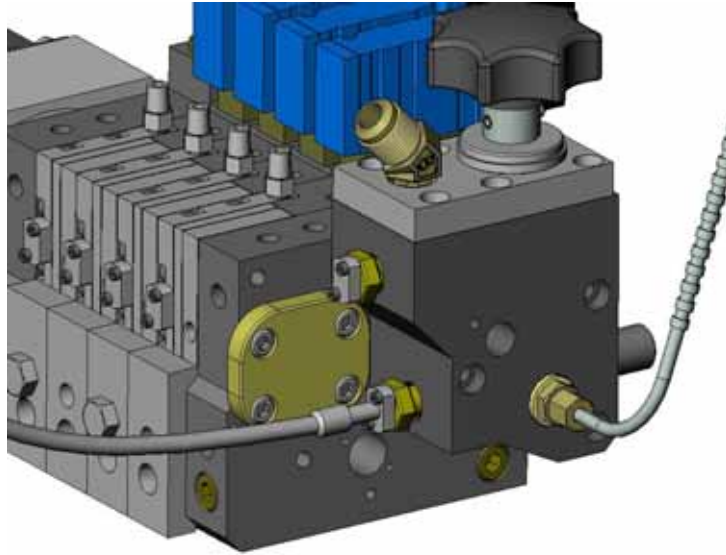

Figure 7-5 Location of the post-filter pressure transducer
2. See Figure 7-5. If applicable, remove the post-filter pressure transducer to allow access to the pump shaft end cap bolts.